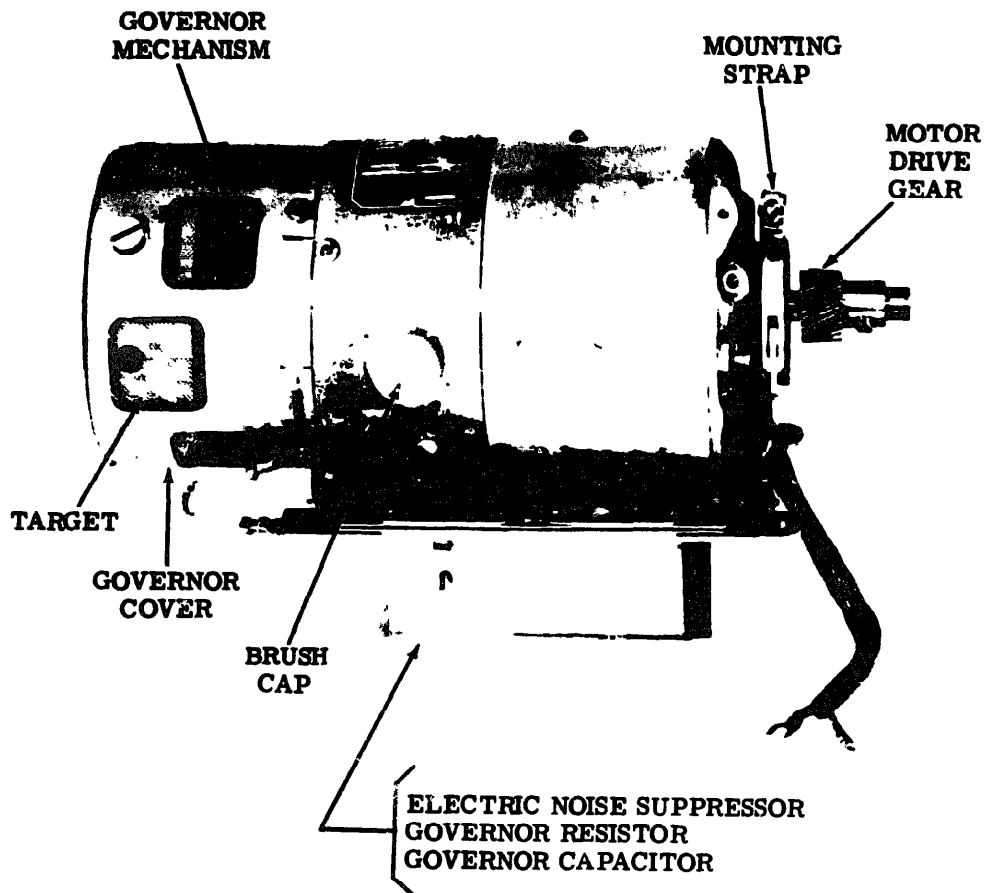

Figure 4- Typical Series (Governed) Motor Unit
1.04 The series governed type motor units (Figure 4) are available in standard and heavy duty horsepower ratings and may be operated from regulated or unregulated, standard, single-phase power sources, or dc (direct current). The series governed type motor unit is also available for operation with 48 volts dc only. Specifications are given in Tables C, D, and E.
SERIES GOVERNED MOTOR UNITS (Figure 4)